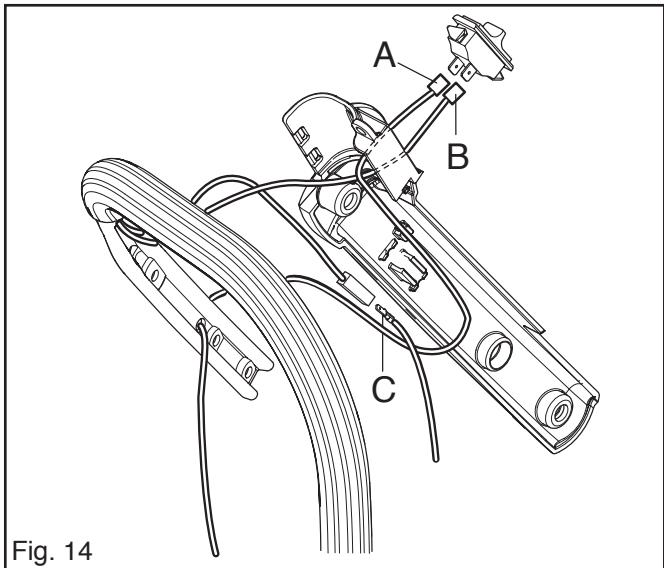

Fig. 14
6. Dismantle the cables (A) and (B) on the heater switch. Loosen connection (C). See fig. 14.
1. Remove the switch and disconnect the cables. See fig. 14.